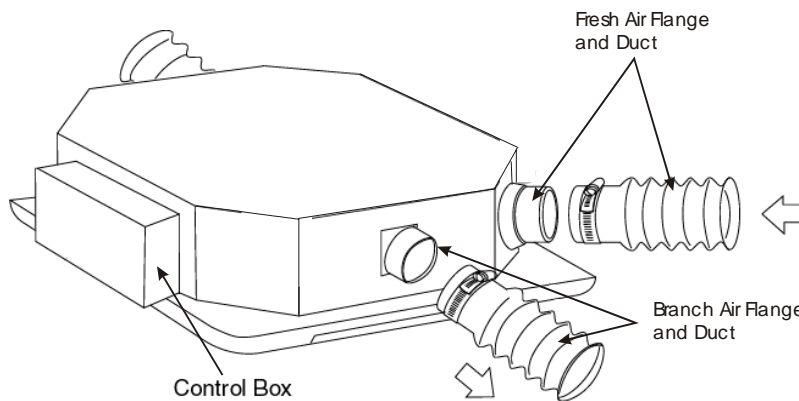

Fig. 26
- The side opening allows separate ductwork to be installed for outside air intake and branch ducting. See Fig.26